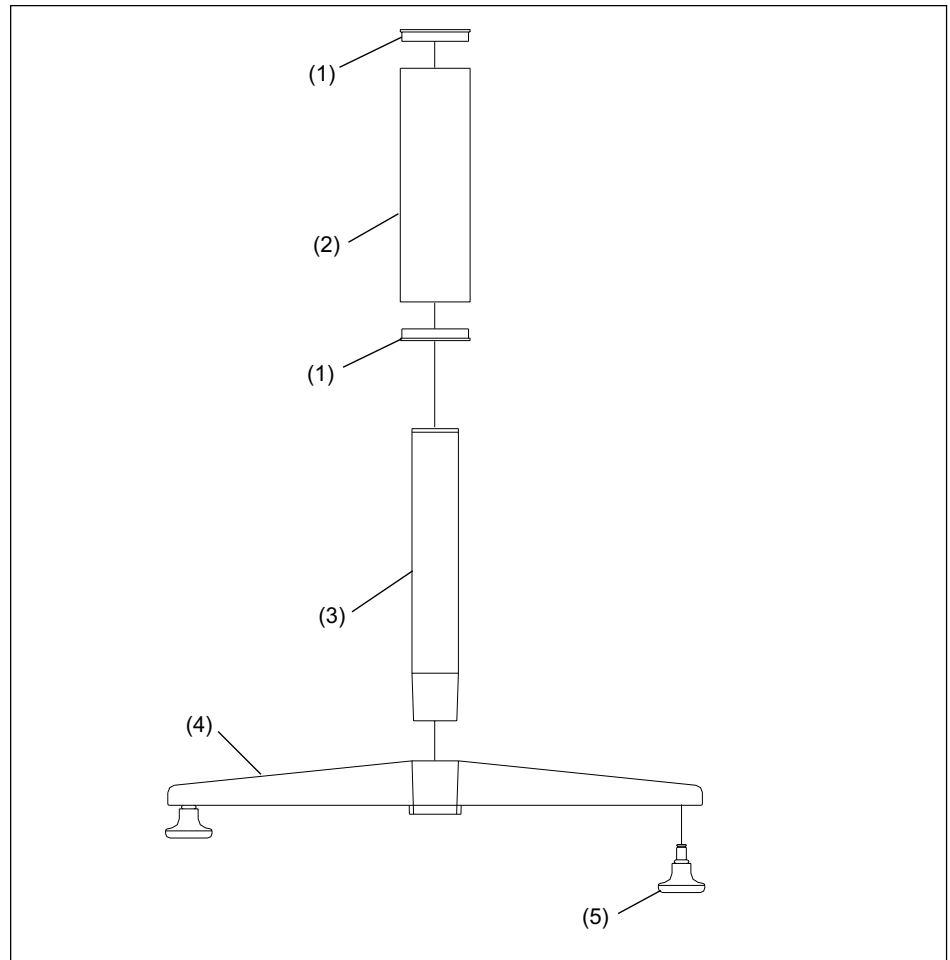

Figure 23. Short Free Standing Chair Assembly
1. Insert glide into base. Refer to *Figure 23*.
2. Insert tapered end of inner column into base. Refer to *Figure 23*.
3. Insert bearings into each end of outer tube. Refer to *Figure 23*.
4. Slide outer tube over inner column and rest on base. Refer to *Figure 23*.